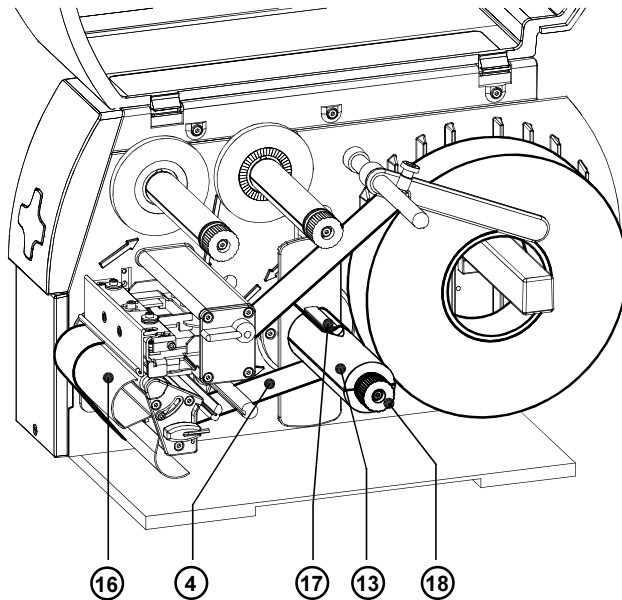

Fig. 7f Loading Labels from Roll in Rewind Mode
12. In rewind mode, the tear-off plate must be replaced with the rewind guide plate (16). Then, slide the media strip (4) around the rewind guide plate (16) to the internal rewind hub (13) as shown in figure 7f. Slide the strip under the clamps (17) that are located on the internal rewind hub (13). Hold the internal rewind hub (13) and rotate the nut (18) counter-clockwise until it is tight. The media strip will now be fastened to the internal rewind hub (13). Rotate the internal rewind hub (13) counter-clockwise to tighten the media strip.